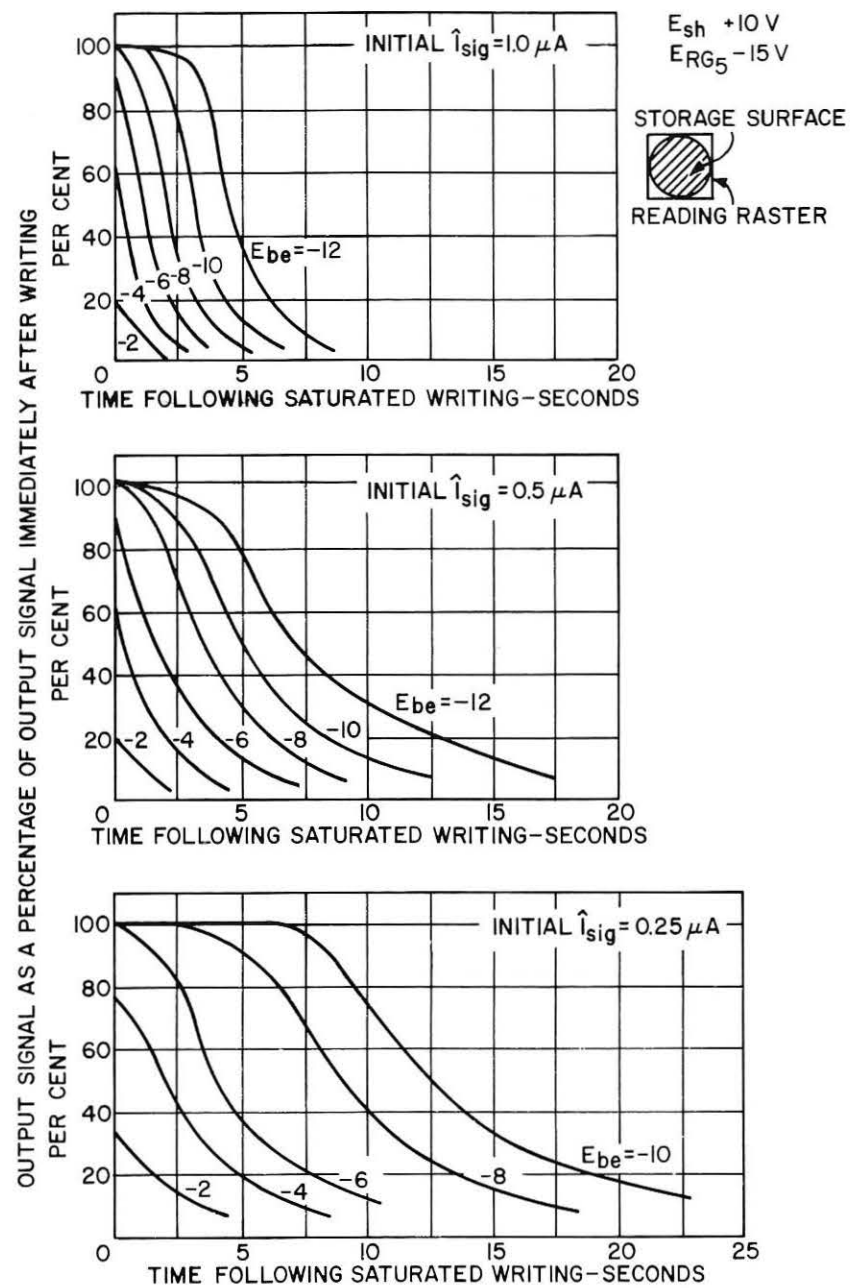

FIGURE 18: "Persistence" characteristics of C22001
With regard to persistence, there is little to choose between the DST and the SC/CRT approaches. In both cases, decay time may be controlled over fairly wide ranges. In the DST approach, decay rate is controlled by adjustment of the erase-pulse duty factor. With the SC, the reading-beam current and/or the storage-target voltage are adjusted. The shapes of both decay characteristics are similar over normal ranges of operation. In this respect, Fig. 7 (DST) may be compared with Fig. 18 (SC). In both cases, decay rate is a function of input signal level, i.e., decay time increases with level of input signal. The curves of Fig. 18 show how SC decay rate and characteristic shapes change with con-
Insignificant coherent noise signals in Graphecon-type, scan-converter storage tubes can be cancelled readily. (Refer to the previous discussion of SC uniformity.) However, noncoherent noise is introduced into the SC output signal, primarily in the first stage of the output preamplifier. Although coherent and noncoherent noises in a display do not create the same subjective impression, it may be of interest to indicate, for comparison, the signal-to-noise ratio of the SC/CRT system. For this purpose, calculation of noise-signal amplitude involves preamplifier equivalent-input resistance, effective output capacitance of the SC, and amplifier frequency-response function, including the effect of aperture correction, if employed. The curves of Fig. 18 show that the desired persistence characteristic, i.e., the decay in signal level from 100 per cent to 10 per cent in two seconds, is obtained readily with a backplate voltage of about -6 volts and an initial peak-signal current of 1.0 microrampere. Use of this current value in Schade's Equation 78 (Reference 1, Part 3), with suitable values for the other parameters, produces a signal-noise ratio for a theoretical flat channel expressed as: